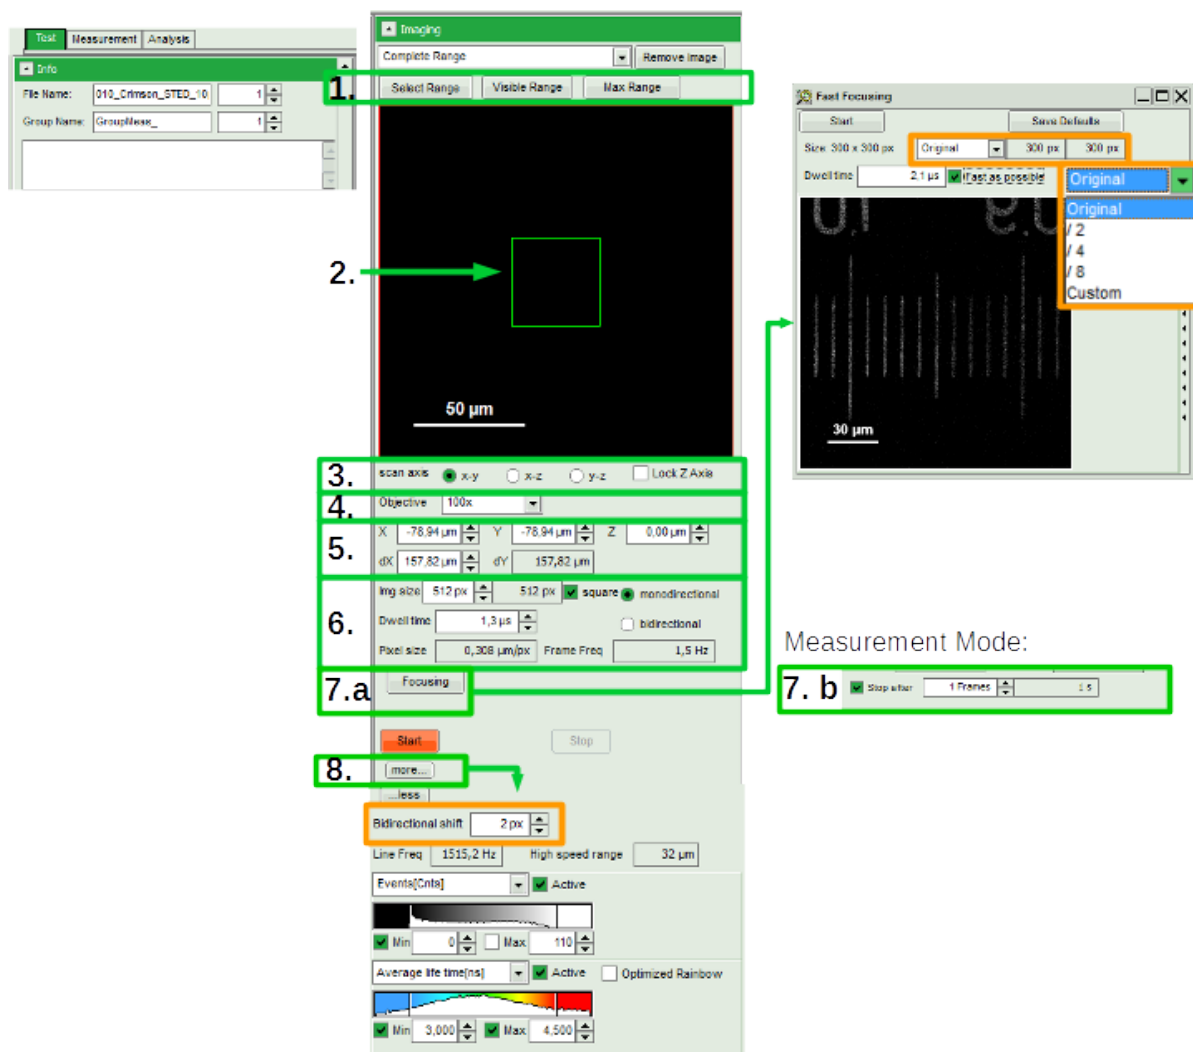

Fig. 5.7: Scan parameters FLIMbee
The FLIMbee software control panel is shown in Fig. 5.7 and the different parts are described below.
- It is of course also possible to select the area you want to measure by typing the desired values in the “X”, “Y”, “dX”, and “dY” fields of the control panel (area number 5 in Fig.5.7). The origin of the coordinate system lies in the upper left corner of the image. The “X” and “Y” values define the upper left corner of the area to be scanned. The “dX” and “dY” values represent the width and height of the scan area. If the check-box “square” in area 6 of the control panel is ticked, input into the “dY” spin-box will be disabled and mirror the value of the “dX” spin box